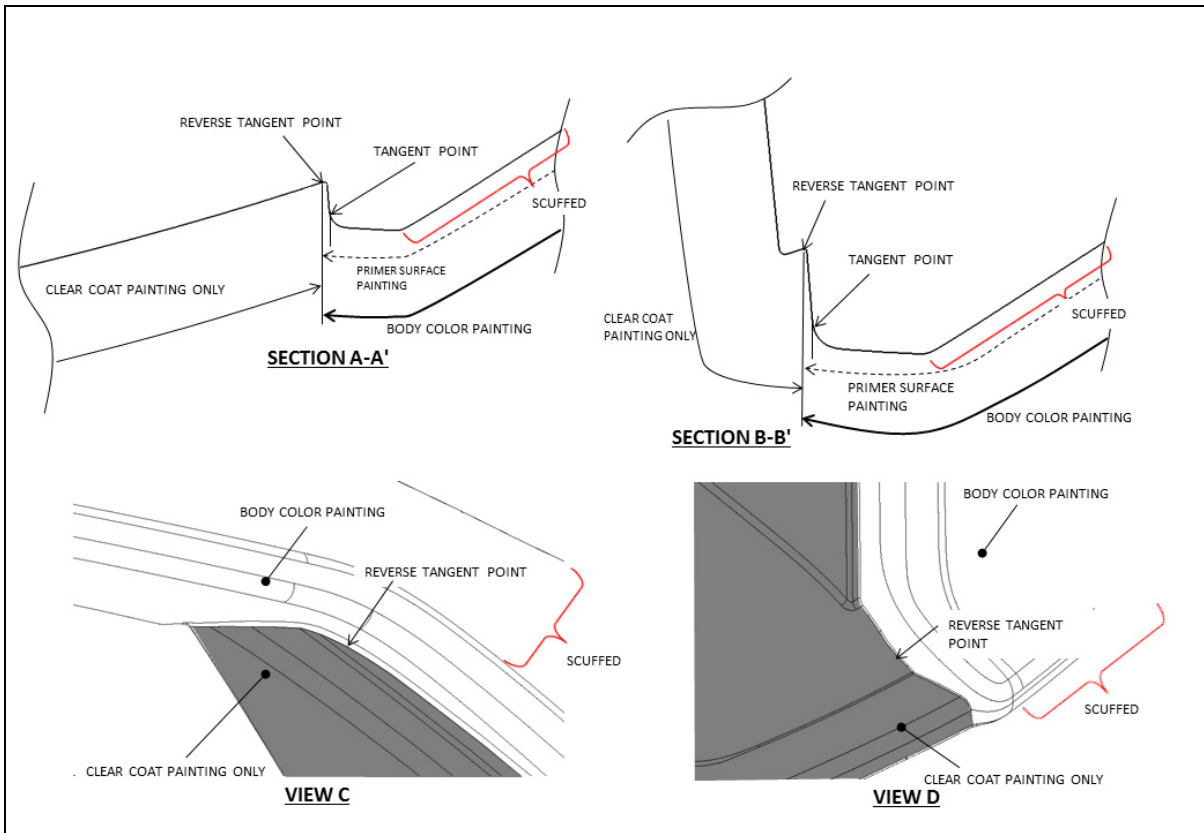
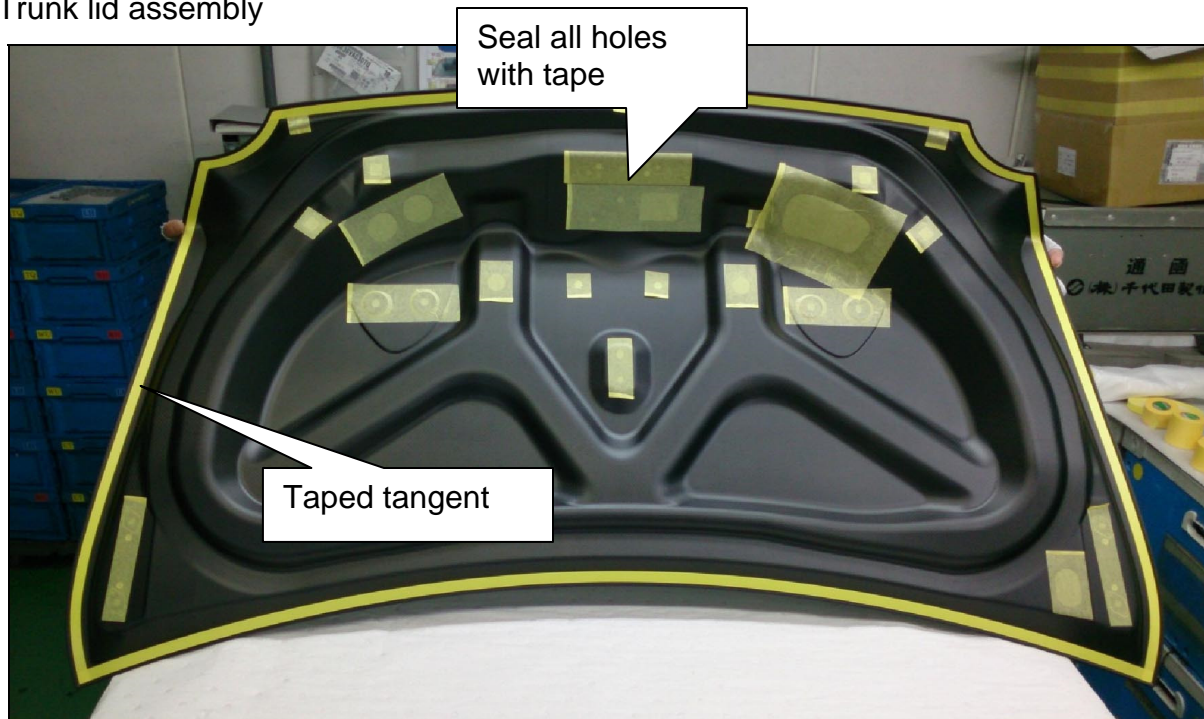
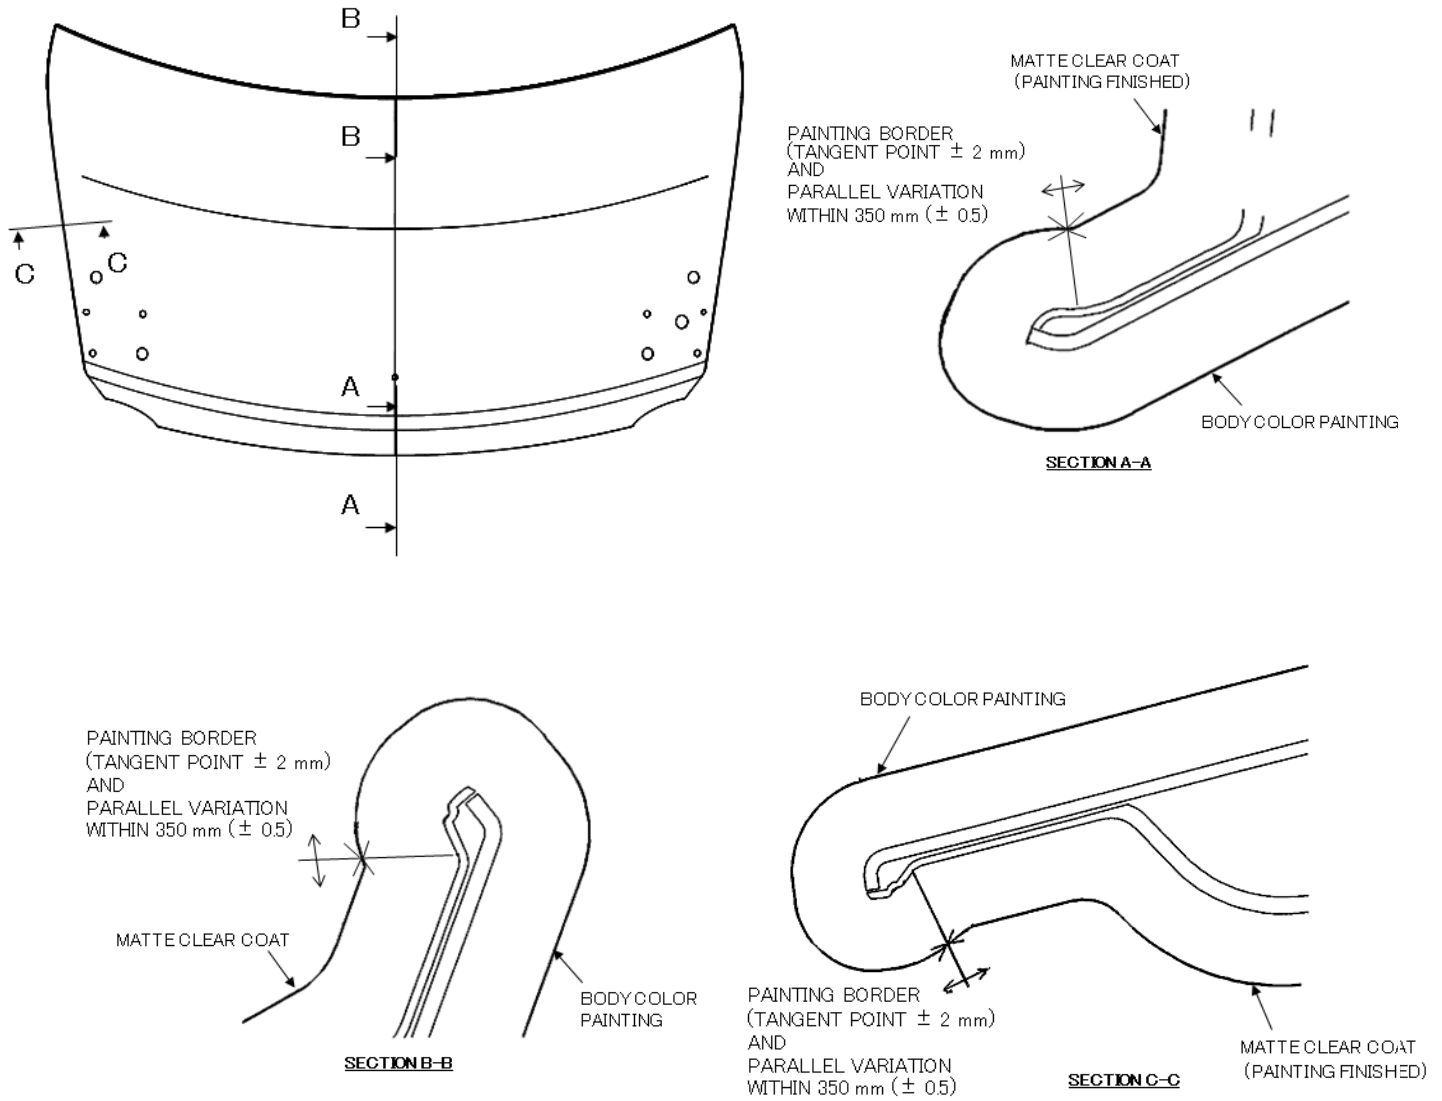

Figure 6
Figure 8
Figure 10
- Only scuff the outer side of the resin of where the trunk lid assembly carbon is shaped (Figures 8, 9 and 10). The inner is painted with a matte clear finish.
- Should be applied until the reverse tangent point which is the borderline between body color painting area and clear coat painting only on front bumper fascia (Figure 6) and trunk lid assy (Figure 10).
Figure 8 is an example of taping the rear trunk lid at the tangent points shown in Figure 10, to paint the outside surface. Inside of trunk lid is already painted with a matte clear finish.